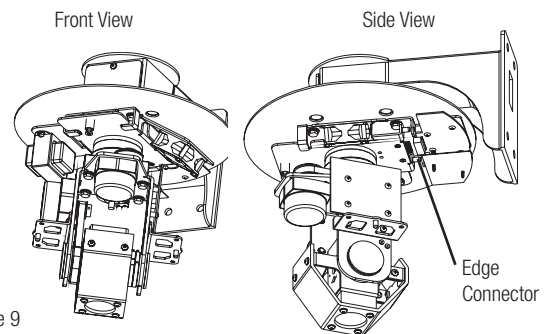

Figure 9
3. With the two vertical flanges lined up and the quick release notches inserted through the support tabs, slide the pan/tilt side ways, towards the housing PC board. There are two alignment pins on the front of the quick release plate that will engage with holes on the housing bracket. The pan/tilt should be pushed side-ways until the panel fastener aligns with the mating insert in the housing plate. Be gentle with the pan/tilt because the wiring connections are being made as the pan/tilt is being slid sideways (Figure 9).